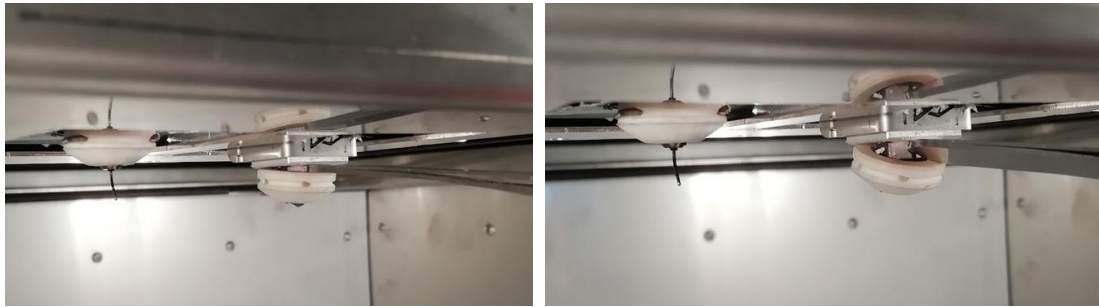

Fig. 89 Removing the cover
11. Remove the cover from the hotend tip by prising it with a flat tool such as a tweezers tip (Fig. 89).